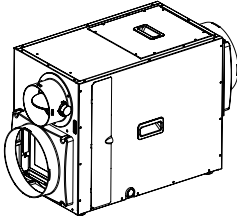

Figure 1
- **Figure 1:** shows the default air intake and exhaust configurations for the 100 and 120 models.